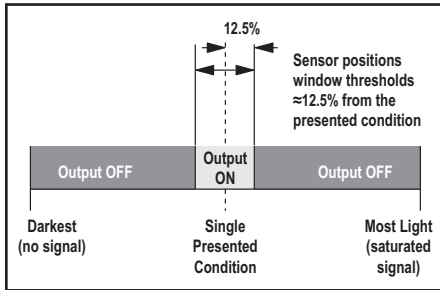

Figure 7. Window SET (Light Operate shown)
- Single ON condition window extends approximately 12.5% above and below the presented condition when Light Operate is selected (see Figure 7). Output ON and OFF conditions can be reversed by changing the Light-/Dark-Operate setting (see below).